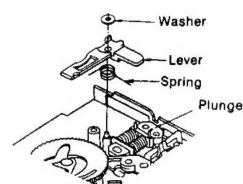

Fig. 8
3. Remove the washer and lever in order to remove the plunger. (See Fig. 8.)